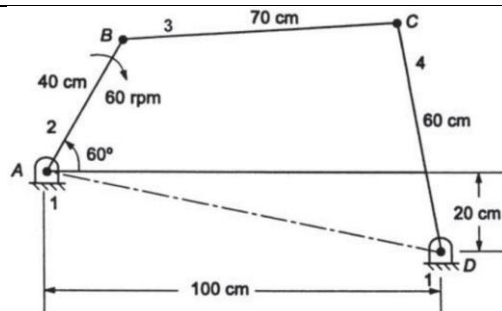

Fig.5b
b) The crank AB of a four-bar mechanism shown in Figure 5b rotates at 60 rpm clockwise. Determine the relative angular velocities of the coupler to the crank and the lever to the coupler. Find also the rubbing velocities at the surface of pins 25 mm radius at the joints B and C. CO3 PO2 12